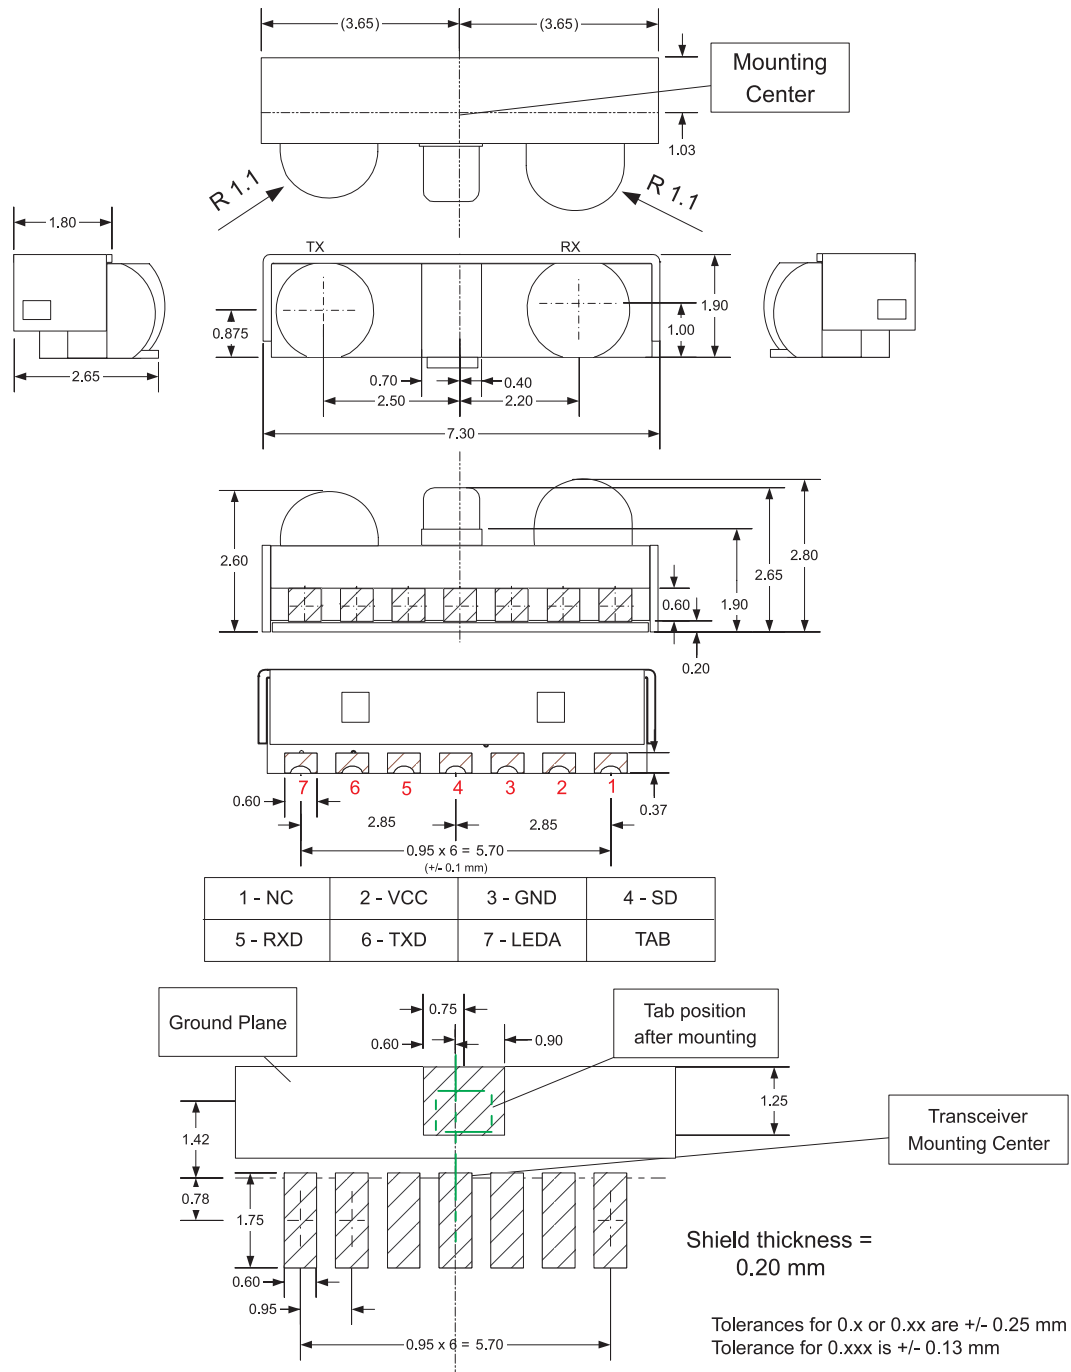

Figure 47. ZHX1403 Transceiver
- ZHX1403 (Figure 47 on page 44)